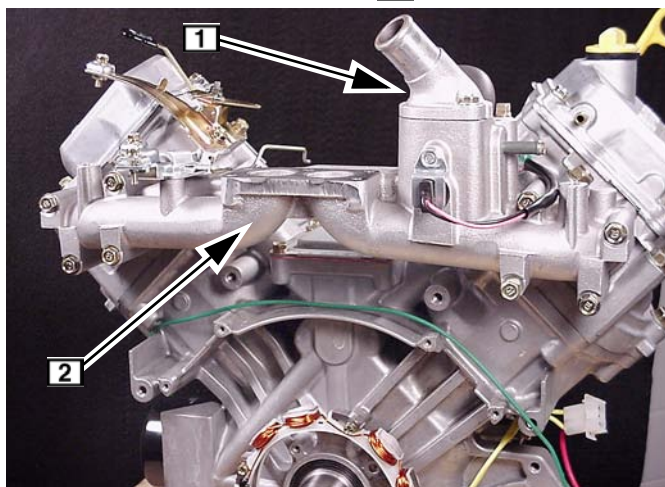

Fig. 52
1. Remove thermostat cover [1] and thermostat, Fig. 52.